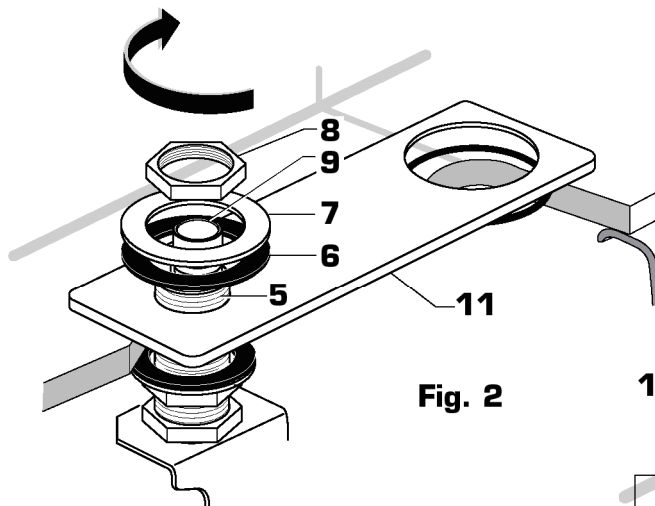

Fig. 2
- Install RUBBER WASHER (6), BRASS WASHER (7) and LOCK NUT (8) onto SPOUT MOUNTING SHANK (5). Thread the LOCK NUT (8) down onto the SPOUT MOUNTING SHANK (5). Fig. 2.